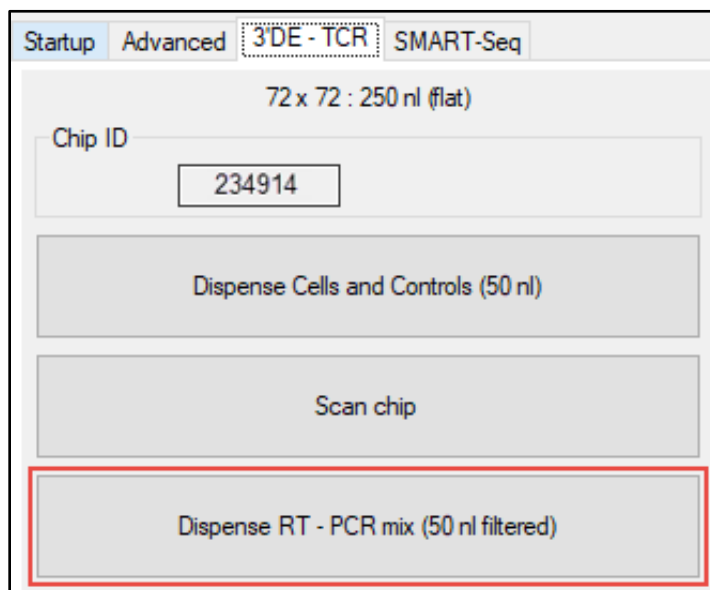

Figure 14. Using CELLSTUDIO Software to dispense the RT - PCR mix.
- b. At step 6, click the [Dispense RT - PCR mix] button (Figure 14).